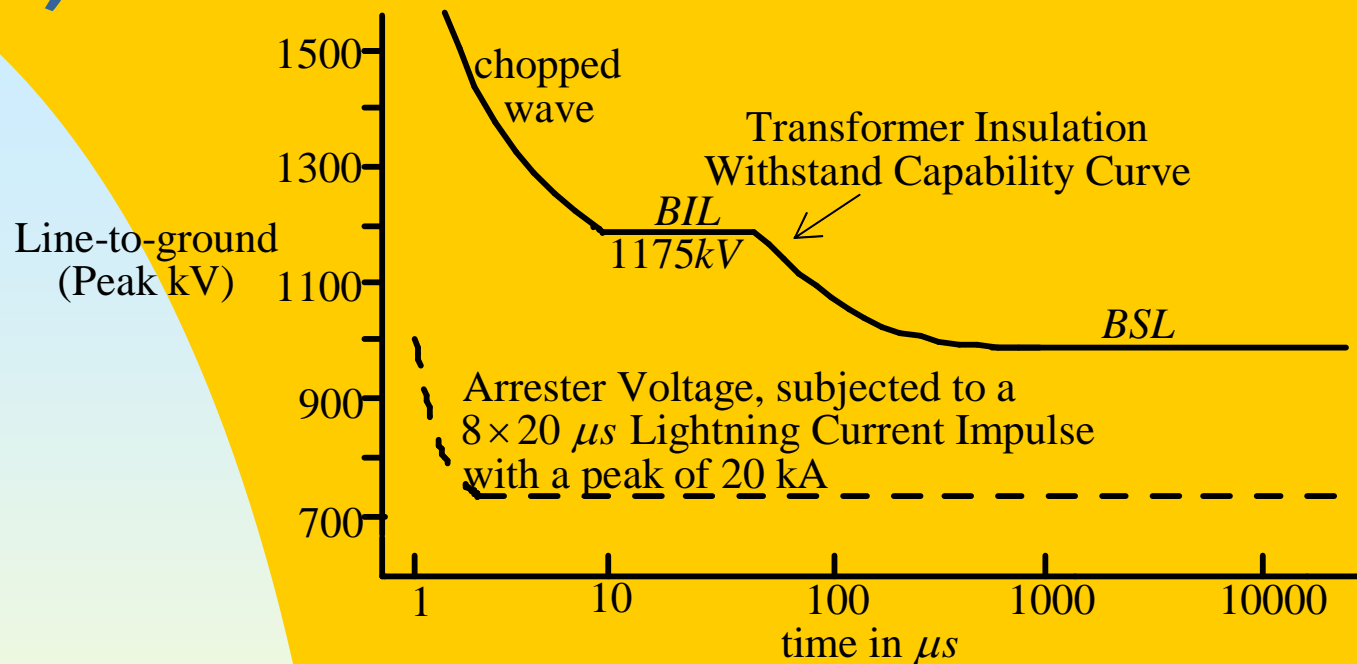

Fig. 14-7 A 345-kV transformer voltage insulation levels.
- The basic insulation level (BIL), as an example, for a 345-kV transformer is shown in Fig. 14-7 as 1175 kV, which is the peak line-to-ground voltage.